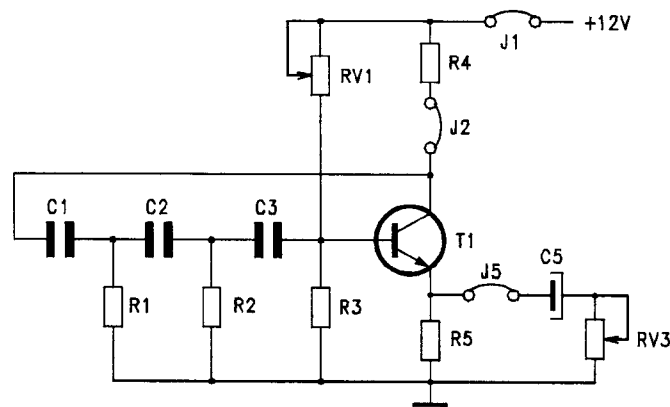

fig. B33.4
- Insert jumpers J1, J2, J5 to produce the circuit shown in fig.B33.4.